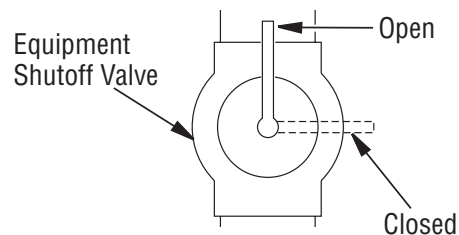

Figure 22 - Equipment Shutoff Valve
1. Close equipment shutoff valve (*see Figure 22*).
1. Open equipment shutoff valve (*see Figure 22*).
2. Close equipment shutoff valve (see Figure 22, Page 15).